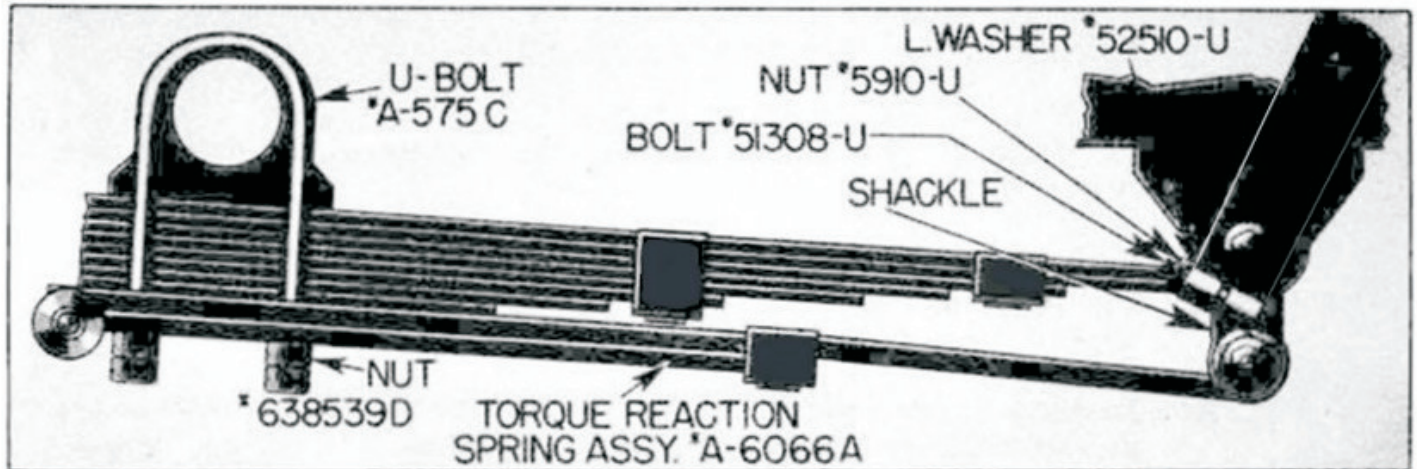

FIGURE 1.
4. The kit is for installation in the left front only. Location on the right, or both left and right will not satisfactorily accomplish the purpose. Instructions for the installation are as follows: See Figures 1 and 2.
- e. Install the torque reaction spring, Part No. A-6066-A, as shown in Figure 1, install nuts, Part No. 638539-D and tighten snugly. Do not tighten fully.
- n. Install bolt No. 51308-U in the lower clamping end of the upper spring shackle bolt locking device as illustrated, (Fig. 1). Install lockwasher No. 52510-U, and nut No. 5910-U and tighten securely. Remove jack.
Incl. - Fig. 1 and 2